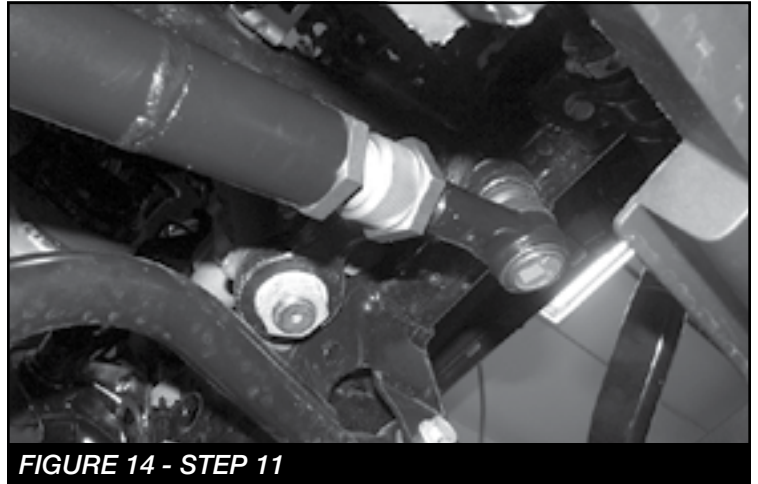

FIGURE 14 - STEP 11
11. Install the new draglink to the pitman arm and knuckle. Torque to 43 ft-lbs. **NOTE: The straight end with the factory rod end will attach to the pitman arm. SEE FIGURE 14**